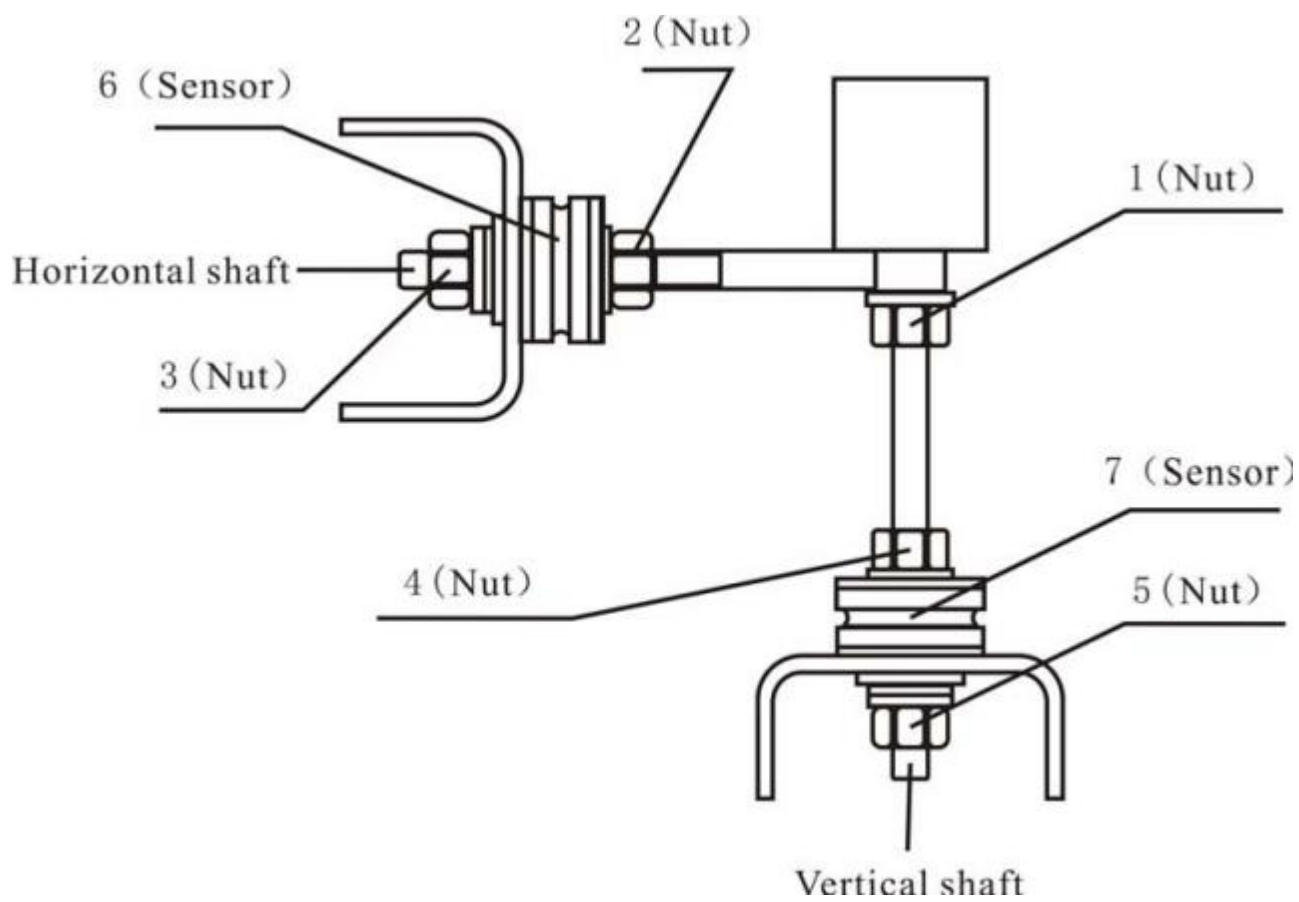

Figure 18-1
4. Install the sensor and the nut according to the Figure 18-1. (Pay attention to the sensor'sdirection.)